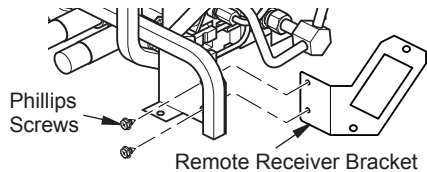

Figure 20 - Installing Remote Receiver Bracket
6. Install receiver bracket to base with phillips screws provided in hardware kit as shown in Figure 20.